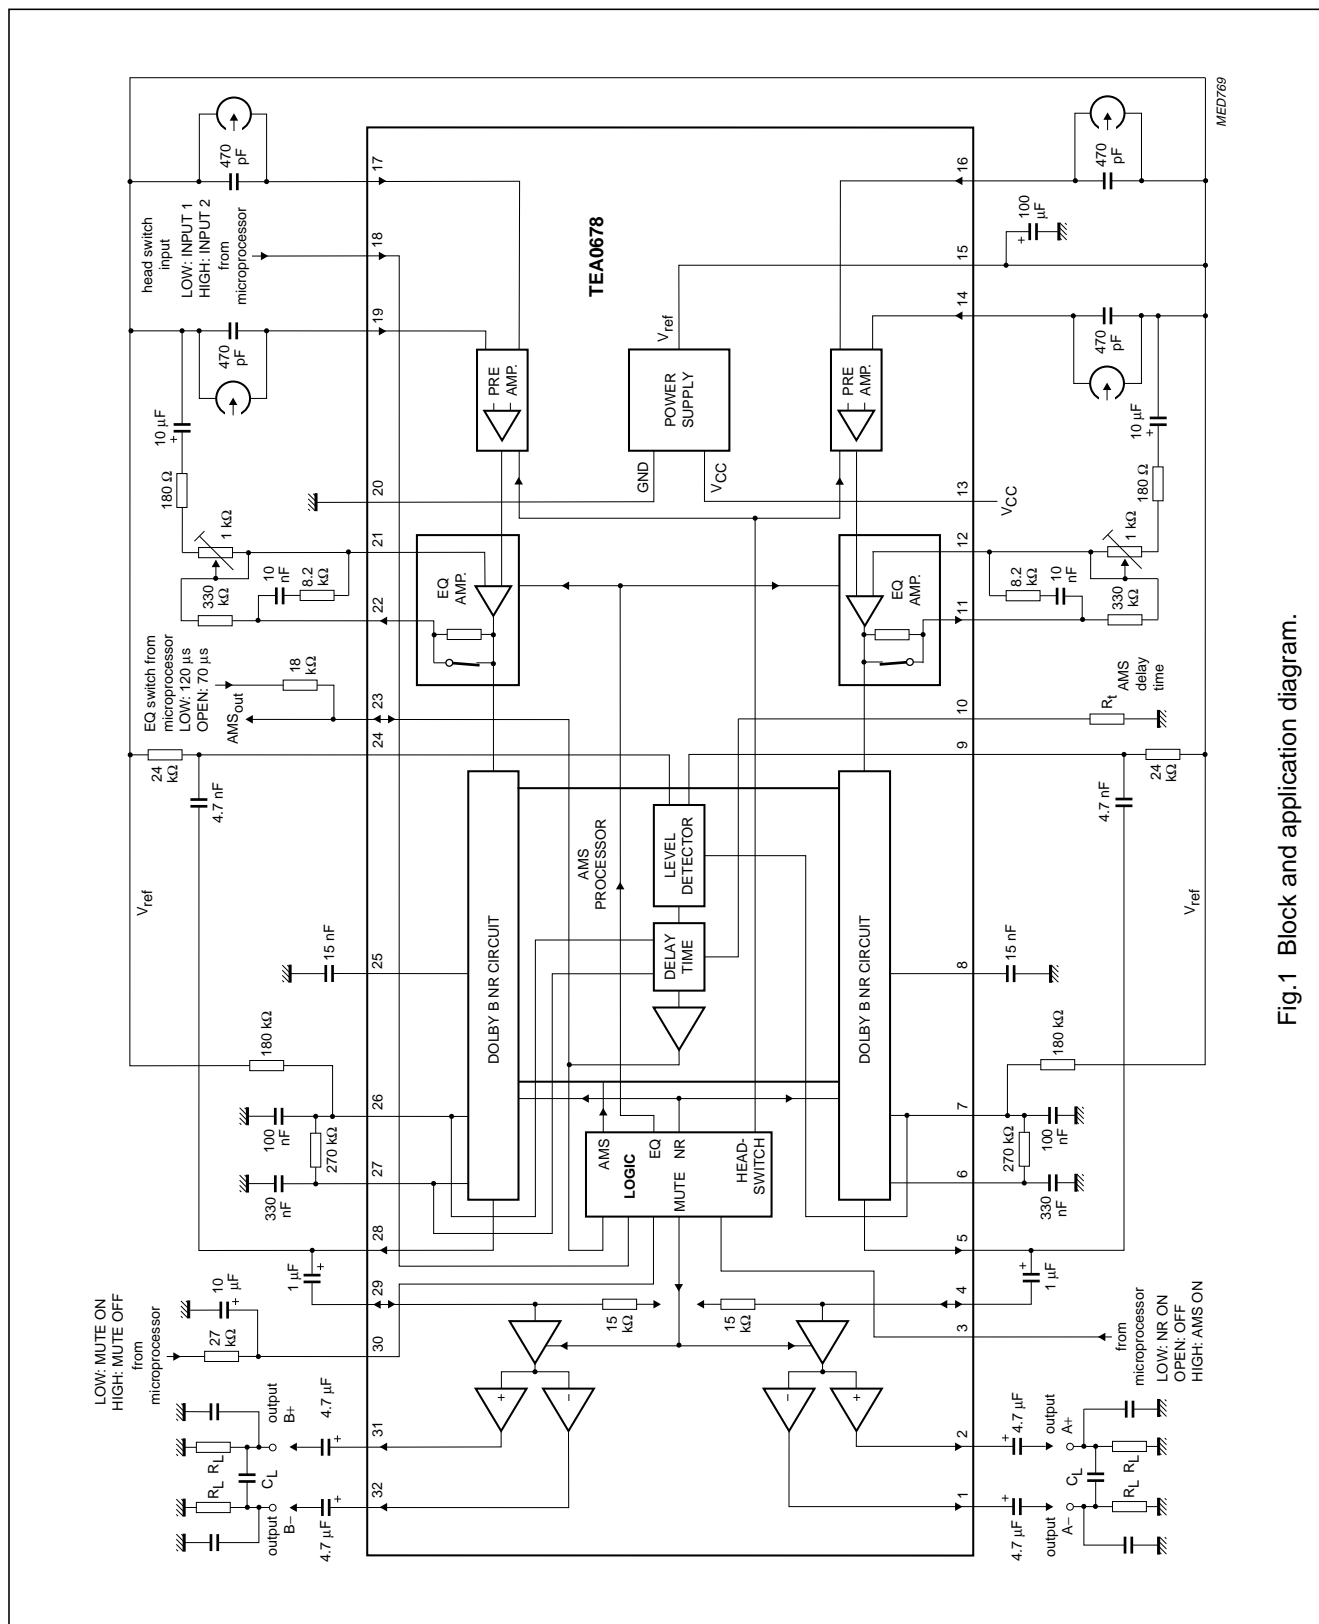

Fig.1 Block and application diagram.
**Equalization time constant switching** (70  $\mu$ s or 120  $\mu$ s) is achieved when pin AMSEQ is connected to GND via an 18 k $\Omega$  resistor (120  $\mu$ s), or left open-circuit (70  $\mu$ s). This does not affect the AMS output signal during AMS mode (see Fig.1).
$V_{CC} = 10\text{ V}$ ;  $f = 20\text{ Hz}$  to  $20\text{ kHz}$ ;  $T_{amb} = 25\text{ °C}$ ; nominal load  $10\text{ k}\Omega$ ; all levels are referenced to  $775\text{ mV (RMS)}$  ( $0\text{ dB}$ ) at differential outputs ( $V_o = V_{o+} - V_{o-}$ ), this corresponds to Dolby level  $387.5\text{ mV (RMS)}$  ( $0\text{ dB}$ ) at test point (OUTC); see Fig.1; NR on/AMS off; EQ switch in the  $70\text{ }\mu\text{s}$  position; unless otherwise specified.